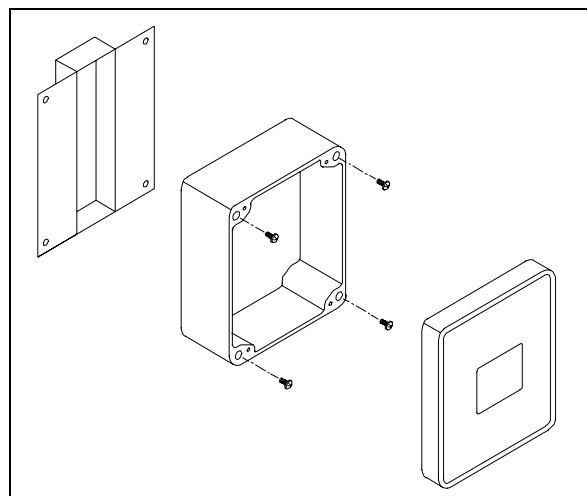

Figure 5. Mounting the Enclosure
2. Mount the rear enclosure to the bracket using the Phillips Fillister head 1/4-20 by 1/2-inch machine screws. Refer to Figure 5.